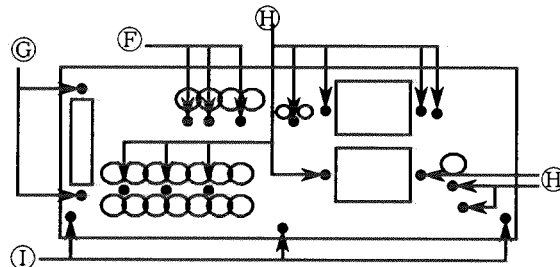

FIG.3 Rear side
2. Remove 20 screws (F),(G),(H) and (I). (FIG.3)
2. Remove 2 screws (G).(FIG.3)
3. Remove 3 screws (L).(FIG.3)